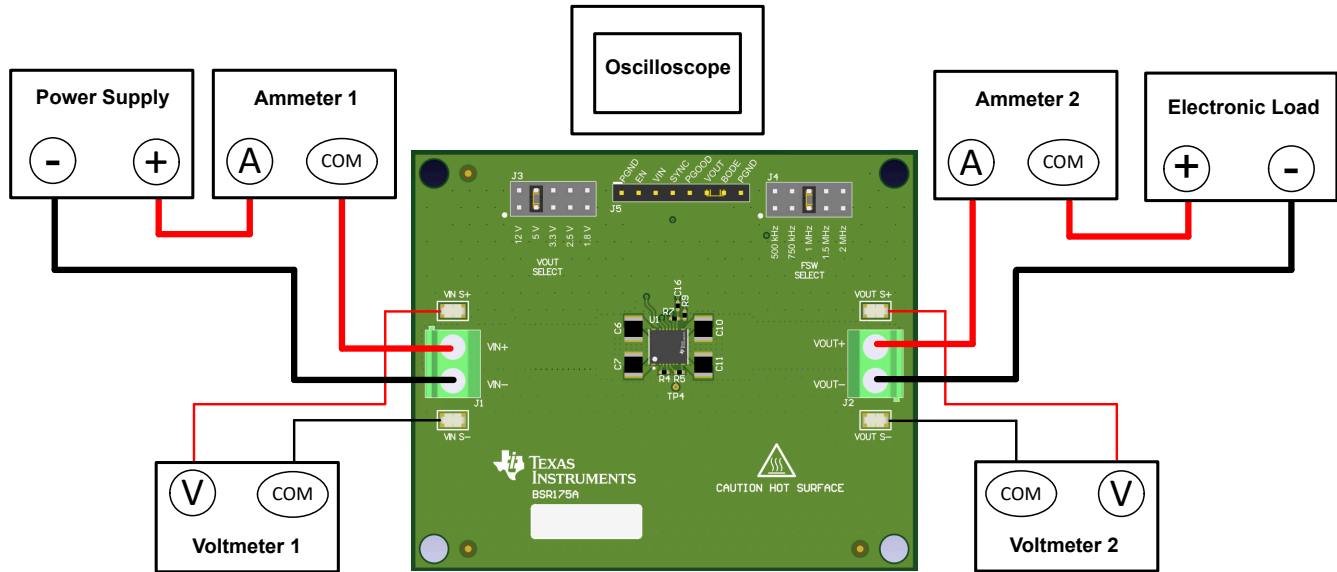

Figure 4-1. EVM Test Setup
Referencing the EVM connections described in Table 4-1, use the recommended test setup in Figure 4-1 to evaluate the TPSM63606(S). Working at an ESD-protected workstation, make sure that any wrist straps, bootstraps, or mats are connected and referencing the user to earth ground before power is applied to the EVM.
- Prior to connecting the DC input source, set the current limit of the input supply to 0.1-A maximum. Ensure the input source is initially set to 0 V and connected to the VIN+ and VIN– connection points as shown in Figure 4-1.
- Connect an electronic load to the VOUT+ and VOUT– connections as shown in Figure 4-1. Set the load to constant-resistance mode or constant-current mode at 0 A before applying input voltage.